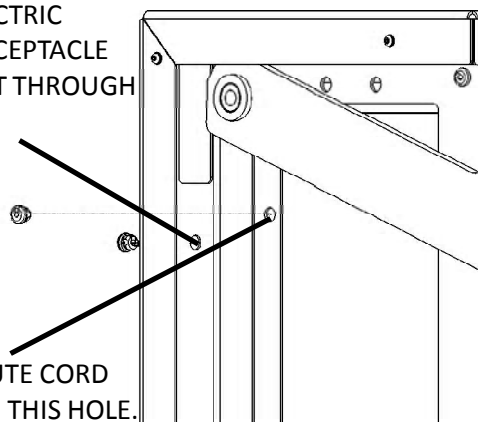

FIG. 5
1. Remove both the left and right side cover panels, electrical cover panel, and rear access panel. Route the receptacle cord first through the .625 hole at the lower left rear corner of the main cabinet. The plug end of the cord will be on the outside of the machine. Secure the cord with strain relief 5NT3707273 approximately 12" from the end of the plug. See FIG. 5.
2. Next, route the cord through the .625 hole located on the left hand side of the machine, and again secure with strain relief 5NT3707273. See FIG. 5.